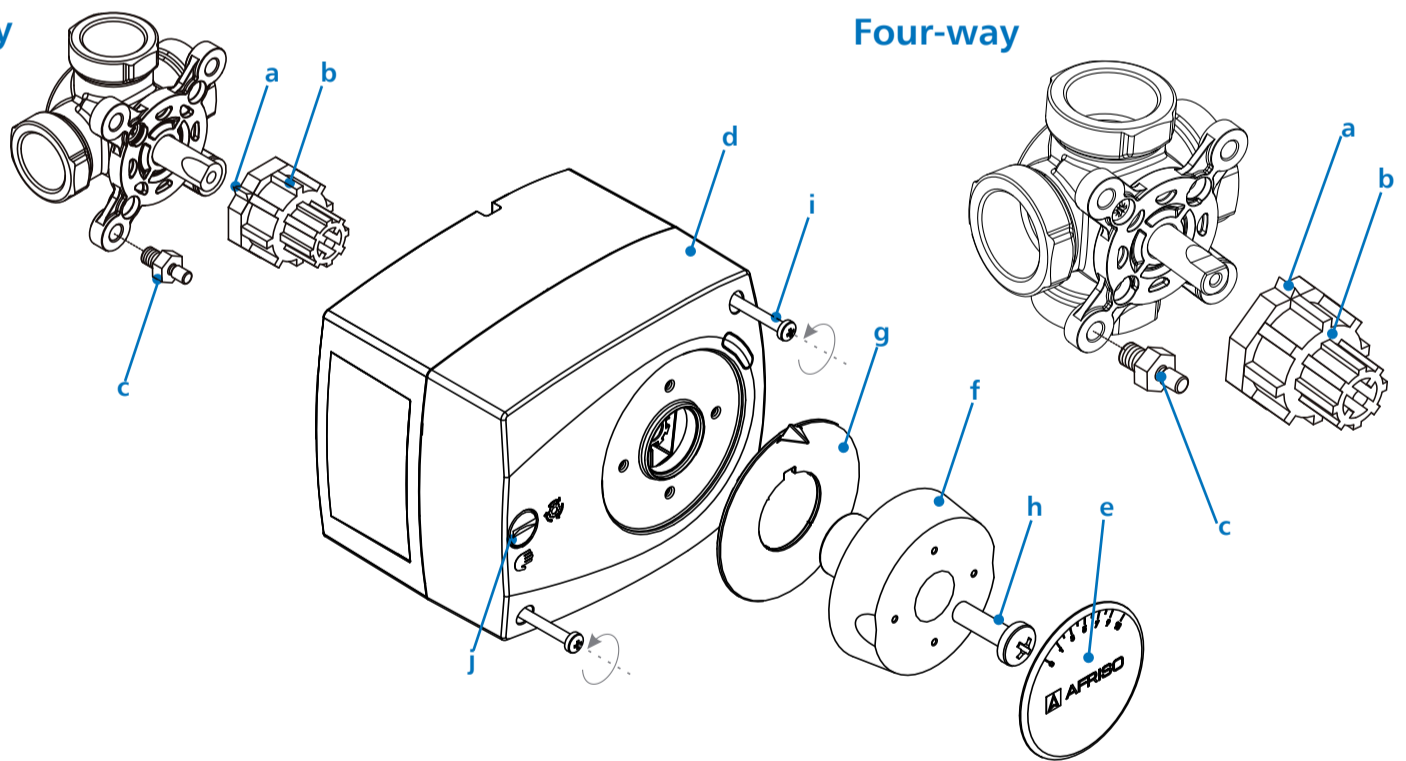
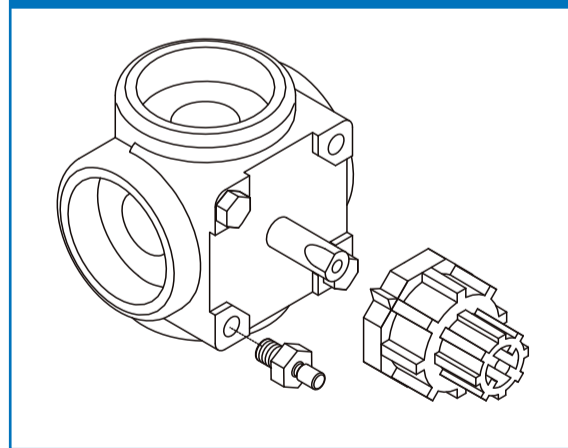

Figure 1.1
Figure 2.1
2. Set the mixing valve to "50% open". The regulating element must be set exactly to the centre position between the hot water supply and the cold water supply in 3-way valve (fig. 2.1) and exactly along the axis of the supply to the system and the return to the boiler in 4-way valve (fig. 2.2).
1. Fit the mounting element "b" to the valve shaft and screw the locking screw "c" into the valve (fig. 1). In the case of AFRISO ARV valves (and in the case of most other valves), mark "a" at the mounting element coincides with the flat at the valve shaft; it also indicates the centre position of the regulating element in the valve (fig. 2.1). You must loosen one of the housing screws (fig. 1.1) so that the locking screw can properly fit into the ARV valves sizes DN40 and DN50.
2. **3-way mixing valve:** Determine the operating range of the regulating element and the shut-off direction of the mixing valve and then set the regulating element to 50% open (fig. 2.1). First, determine the hot water and the cold water supply of the valve installed in the heating system. It should be possible to move the regulating element between the hot water supply and the cold water supply within a range of 90°. Then adjust the regulating element exactly in the centre between the hot water supply and the cold water supply (fig. 2.1). During this phase, you should also determine the valve shut-off direction (shutting off the hot water supply) and the valve opening direction (opening the hot water supply).
4. Select the appropriate adjustment scale. The actuator kit is delivered with two adjustment scales: "from 0 to 10" and "from 10 to 0". Hold them to the valve; select the adjustment scale whose setting "0" corresponds to the cold water supply and whose setting "10" corresponds to the hot water supply - as shown in fig. 2.1. You may also use another simple rule to select the adjustment scale.